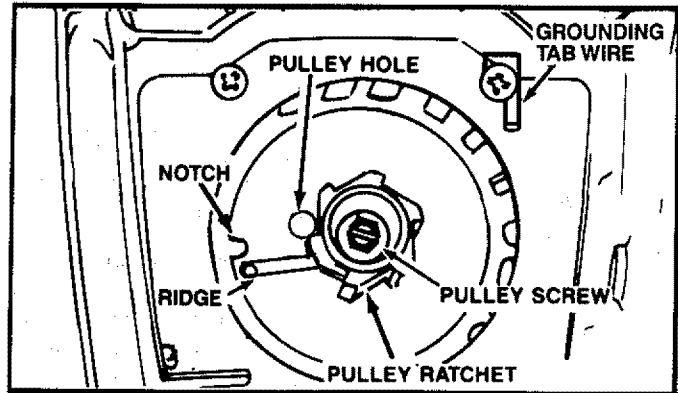

Figure 10
Avoid contact with the grounding tab wire in the fan housing (Figure 10) when removing or reinstalling the starter rope pulley. Contact with the grounding tab wire can result in serious injury.
3. If the starter rope is not broken, release the spring tension by pulling about 10 inches of rope from the pulley and catching the rope in the notch as shown. Figure 10. With the rope in the notch, let the pulley unwind slowly until it stops turning. If the rope is broken, remove the broken piece.
4. Remove screw and pulley very carefully. Figure 10: **The recoil spring which lies beneath the pulley must stay in the housing, flat against the bottom. If the spring is disturbed, it will require considerable time and effort to reinstall. Twist the pulley gently counter clockwise ← as you pull up to release the spring.**
13. Replace and tighten pulley screw. Figure 10.